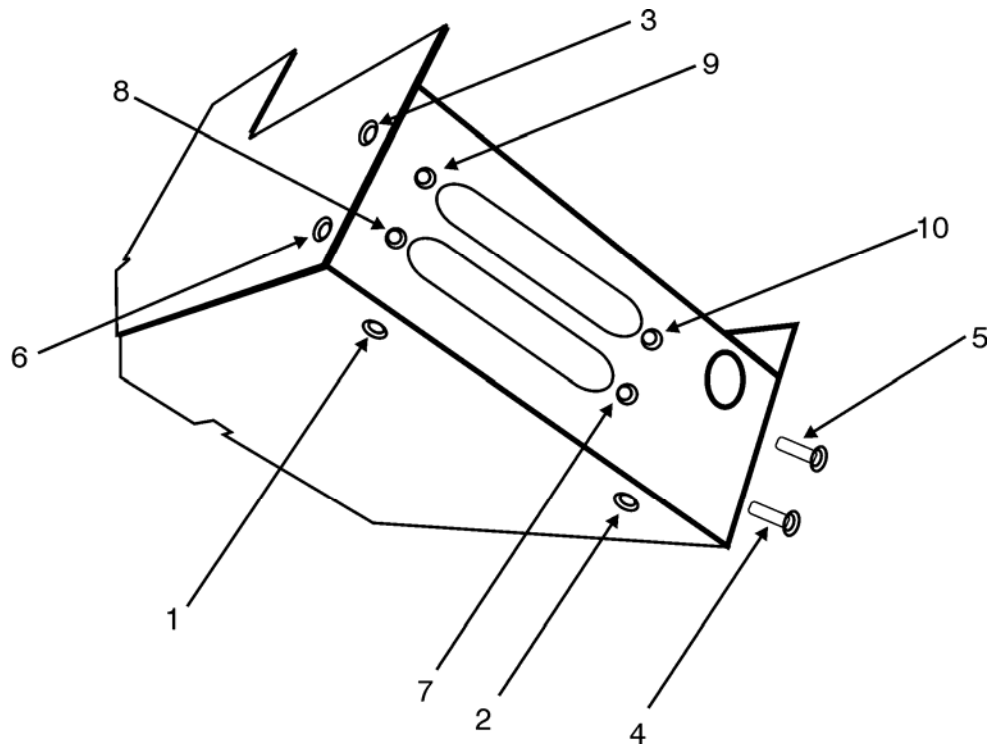

Figure 4-4. Chassis Back Torquing Sequence
1. Place I/O Board (3) over Main Board (2) , attaching Connector (J7) on I/O Board (3) to J1909 and J1910 on the Main Board (2).
2. Install one Screw (13) into I/O Board.
3. Install remaining three Screws (11).
4. If Display Head (1) was not removed earlier, insert Mounting Rod (10) under Main Board. Verify Washer (17) is threaded onto Mounting Rod (10).
5. Attach Chassis Back (6) to Chassis using six Screws (14). See Figure 4-4 for torque sequence. Insert Chassis Back Tab into Chassis Slot, then rotate Chassis Back into Chassis.
6. Install four Screws (14) attaching 62-pin I/O Board Connector and 37-pin Main Board Connector to Chassis Back (6) following the correct torque pattern.